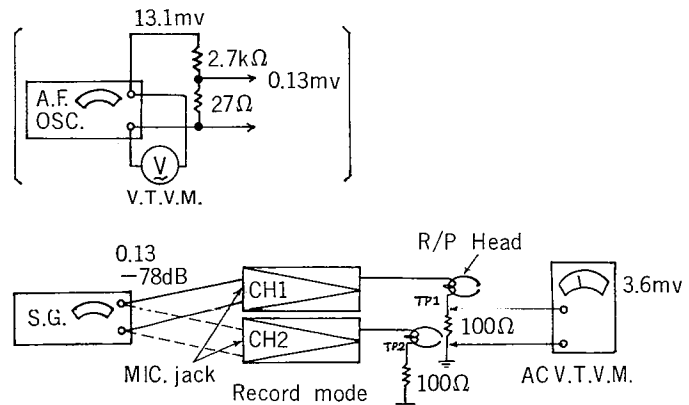
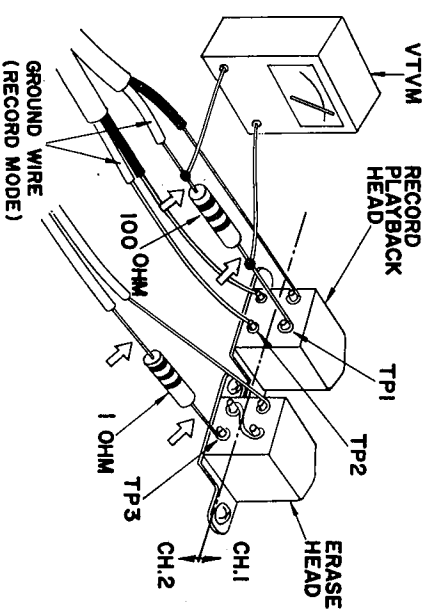
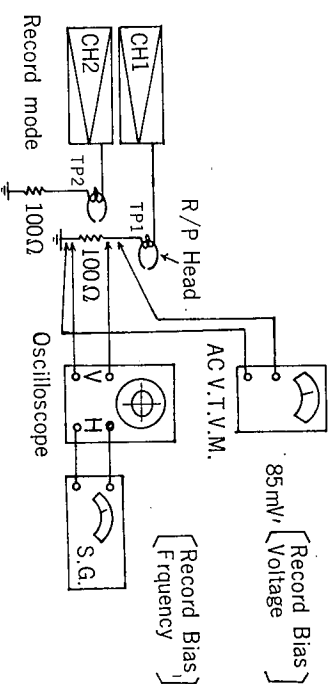
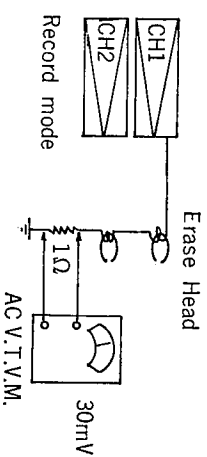

Figure 19
Figure 20
Figure 21
Figure 22
3. Connect the Audio Signal Generator for 1000 cps, -68dB (=0.4mV, 0dB=1V) across the CH-1 and CH-2 terminals of the RECORD/PLAYBACK HEAD (82). Use 2.7K and 27 ohm resistors as illustrated in Fig. 19 if such a meter that is not sensitive enough to measure 0.4mV.
## 2. RECORD AMPLIFIER SENSITIVITY (Refer to Figure 19, Figure 20 and Schematic Diagram)
Refer to Figure 19 and Figure 20.
### 3. RECORD BIAS VOLTAGE (Refer to Figure 20 and Figure 21)
Refer to Fig. 20 and Fig. 21.
(Refer to Figure 20 and Figure 21)
1. As shown in Fig. 21 insert a 100Ω Resistor to ground Lead Wire of Record/Playback Head. Connect vertical Axis of Oscilloscope across the Resistor. Connect horizontal Axis of Oscilloscope to Output Terminal of Signal Generator.
### 5. ERASE VOLTAGE (Refer to Figure 20 and Figure 22)
Refer to Fig. 20 and Fig. 22